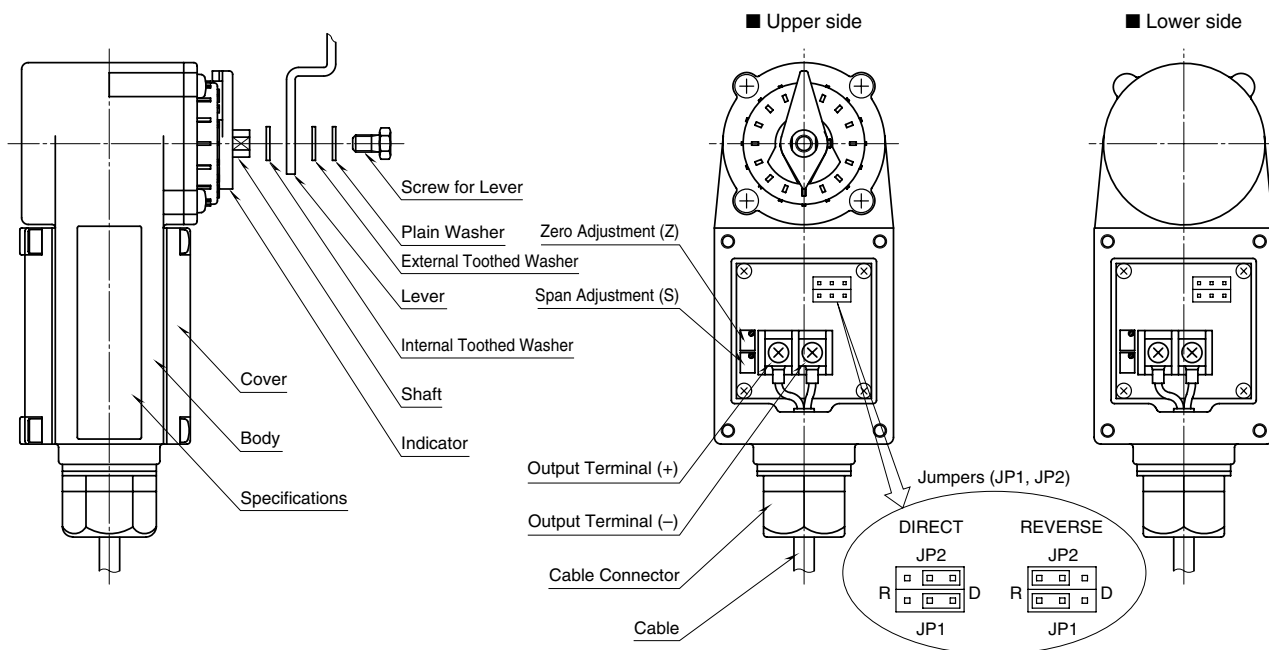

Figure 1
Connect the lever to the VOS2T-R unit with a screw included in the package, with a plain washer and a toothed washer between them as in Figure 1. At this stage, you do not have to fasten the screw tightly.
After that, open the VOS2T-R unit cover. Set the action direction* with jumpers (JP1, JP2 in Figure 1) and adjust Zero (Z) and Span (S) behind it.
1) If you need reverse action, change the setting now. Remove the cover and set the jumpers JP1 and JP2 to R position according to Figure 1. Factory set zero point may be slid by changing the action direction. Re-adjust according to the following.